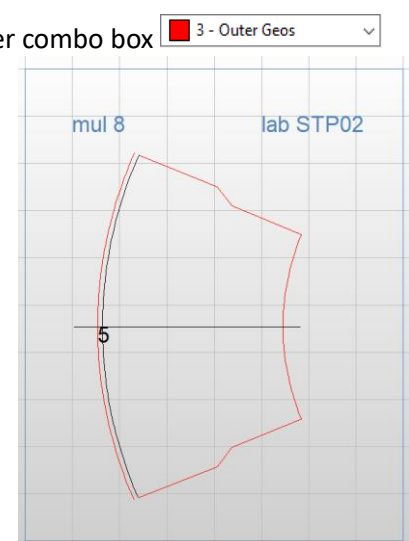

Figure 80
g. Further change the layer of the original **A1** from layer 3 to layer 0 (Figure 80).